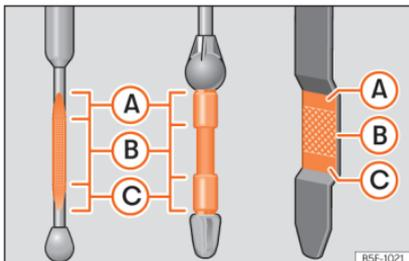

Fig. 222 Engine oil dipstick.
- Then pull it out once more and check the oil level »» Fig. 222. Top up with engine oil if necessary.
- When the oil level reaches at least zone »» Fig. 222 **B**, unscrew the engine oil filler cap carefully »» ⓘ.
If the oil level is above area »» Fig. 222 , do not start the engine. This could result in damage to the engine and catalytic converter. Contact a specialised workshop.
The oil level must never be above zone »» Fig. 222 . Otherwise oil can be drawn in through the crankcase breather and leak into the atmosphere via the exhaust system.